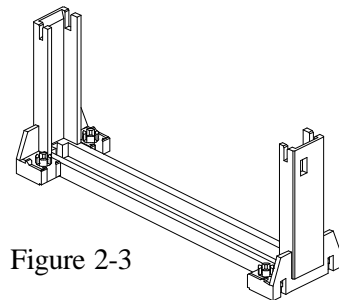

Figure 2-3
- ❑ Retention Mechanism (RM) - Plastic Guide with captive nuts that hold the S.E.C. Cartridge in the Slot1 connector. (Refer to Figure 2-3)